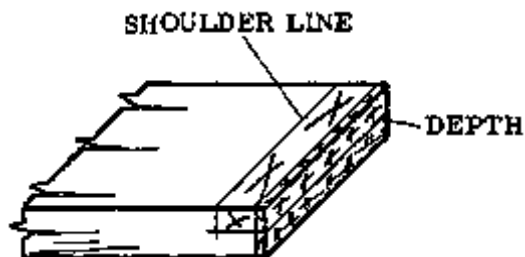

Fig. 3
- Mark the shoulder lines of the rebate on the inside face of the piece, using the try square (Fig. 3).
- Mark the depth of the rebate on the end grain and the edge, using a marking gauge (Fig. 3). Show the waste with crosses.